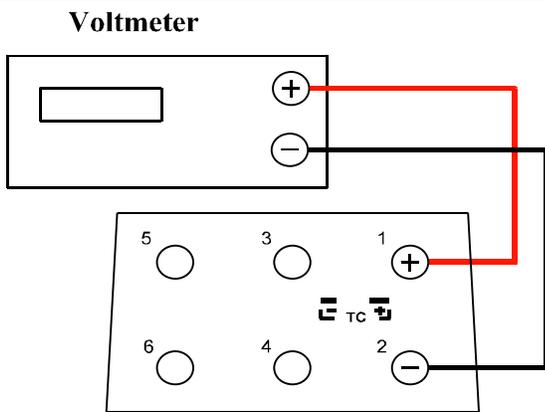

FIGURE 5
1. Switch the 830 to VDC (mV Range). If the unit is not in mV range, press the *TYPE/ENG UNITS* button until m is displayed. Connect terminals 1 and 2 from the 830 to a Voltage Meter (See figure 5).